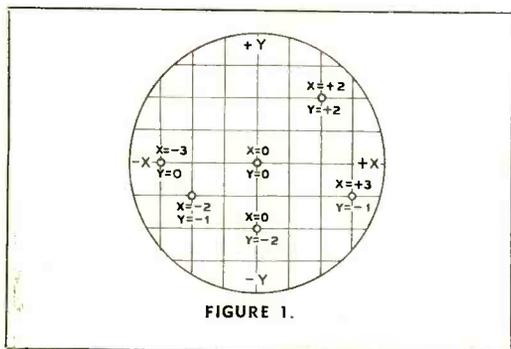
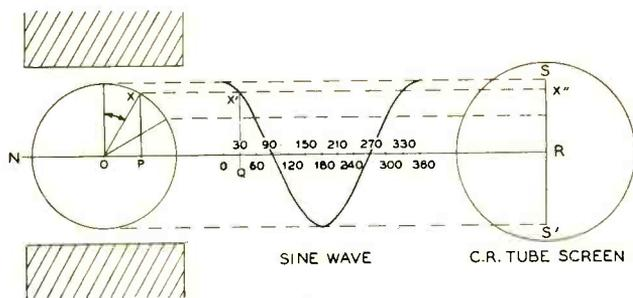

FIGURE 1.
FIGURE 3.
In figures 1 and 2 are shown two simple varieties of bass suppression. They are self-explanatory and can be placed between almost
The bass suppressor shown in figure 1 has a suppression of 6 db at 100 cycles while the arrangement of figure 2 has 0, 4, 6 and 8 db suppression in the four switch positions. The five megohm resistors merely eliminate the loud clicks which otherwise would be heard when varying the suppression.
With the tube in the above position, voltages will put the spot in the relative positions shown in figure 1. The  $x$  axis represents positioning due to voltages on the horizontal deflecting plates, while the  $y$  axis positions are determined by the potential on the vertical deflecting plates. Two volts positive on each free plate will put the spot in the relative position marked  $x = +2, y = +2$ .
If the radius of a circle (OX) is swung around the circle, as in figure 3, and the length of the line XR plotted against the angle of rotation, in rectangular coordinates (X'Q), a sine wave is formed. If the radius is a loop of wire between two magnet pole pieces as drawn, it becomes a simple form of the a.c. generator supplying the house mains. When this voltage is placed on one pair of plates, with the other pair shorted, the cathode ray tube sees the sine wave "edge on" just as would be seen by an eye placed at R, looking toward Q. In short, the pattern is a straight line either along the x or the y axis of figure 1 depending upon the pair of plates on which the a.c. is impressed. The line is traced twice during a complete cycle. As is apparent from figure 3, the line follows the peak rather than the average or r.m.s. values of the voltage. The line will be weaker in the center than at the ends because the speed of the dot is greater at the center while it slows down and reverses itself near the ends.
If identical voltages are applied to the two free plates by connecting them together, then the pattern is a straight line. That is, the voltage may reach a positive peak (let us say at the point  $x = +3$ ,  $y = +3$ , in figure 1, assuming equal sensitivity) on each free plate at the same time. Likewise, the voltage will be zero ( $x = 0$ ,  $y = 0$ ) and at the negative peak ( $x = -3$ ,  $y = -3$ ) at the same times. The resulting line, as will be seen from plotting these points in figure 1, will run from the upper right to the lower left, with the tube oriented as described above. This indicates zero phase between the plates.
When the voltages are equal and 90 degrees out-of-phase, the peak of a half cycle on one set of plates occurs when the voltage on the other set is zero. That is, the spot passes through points  $x = +3, y = 0$ ;  $x = 0, y = -3$ ;  $x = -3, y = 0$ ; and  $x = 0, y = +3$ , in figure 1. A circle therefore results. If the voltages are unequal, the pattern is an ellipse but its major axis is either horizontal or vertical. Figure 5 shows such a circle, with a waver in it indicating that the waveform is not pure.